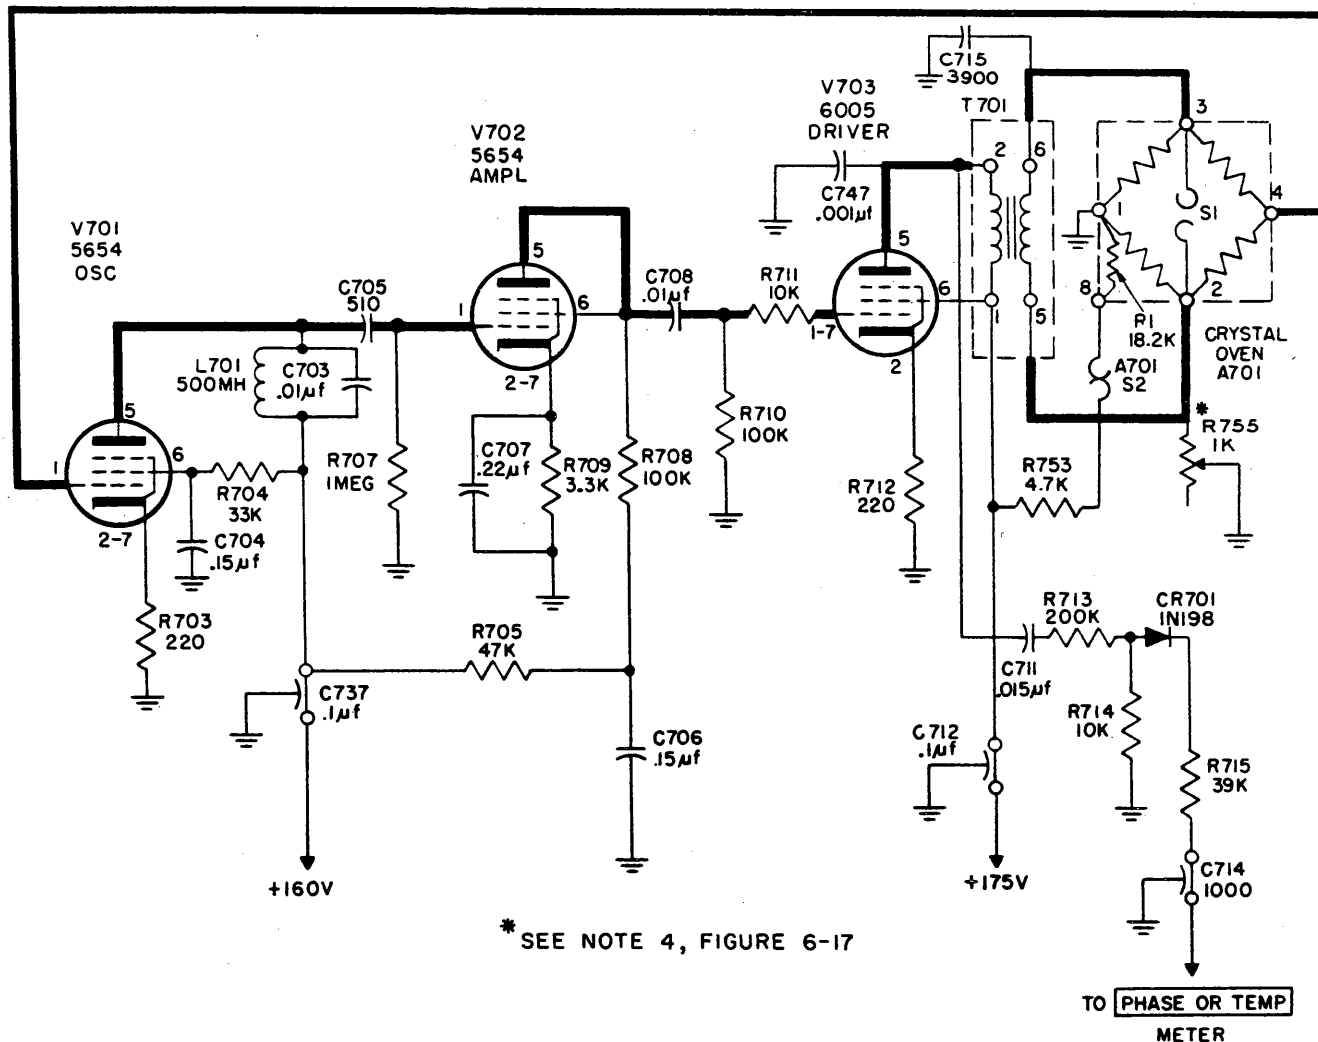

Figure 4-38. Oven Oscillator-Amplifier, Simplified Schematic Diagram
a. OVEN OSCILLATOR-AMPLIFIER. (See figure 4-38.)—The oven oscillator-amplifier circuit is a fixed-frequency audio amplifier with a positive feedback which produces circuit oscillation. Power produced by the oscillator is applied to the heating elements of crystal oven assembly A701.
the oven are also parts of the oven assembly but not functional parts of the oven oscillator-amplifier circuit; therefore they have been omitted from figure 4-38. The complete oven is mounted in a Dewar flask similar to a vacuum bottle. The flask is protected against shock by a fibreglas blanket and mounted in a steel container. This assembly is a single unit; components cannot be removed for individual repair or replacement.